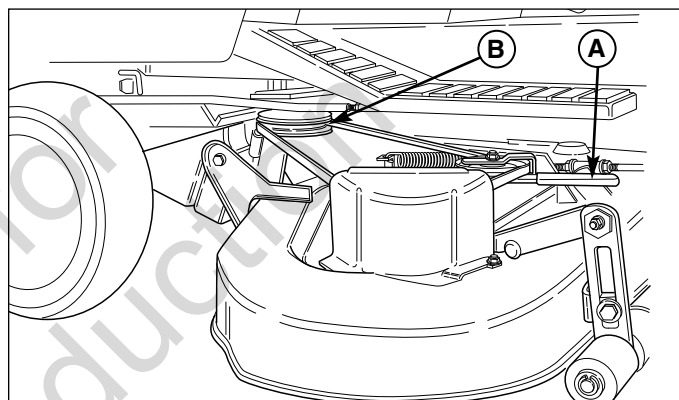

Figure 7. Removing & Installing Belt
5. Remove belt from PTO pulley (B, Figure 7).
5. See Figure 7. Move idler arm (A) to relieve belt tension. Install belt onto the PTO pulley (B).
7. Remove belt from PTO pulley (B, Figure 7).
7. See Figure 7. Move idler arm (A) to relieve belt tension. Install belt onto the PTO pulley (B).